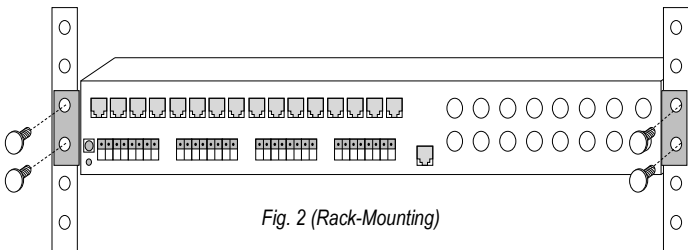

Fig. 2 (Rack-Mounting)
- b. Rack-mounting – attach the two included mounting brackets to the front or back of the VPD Combiner (see fig. 2). Then attach to a standard 19" rack with the four included screws.